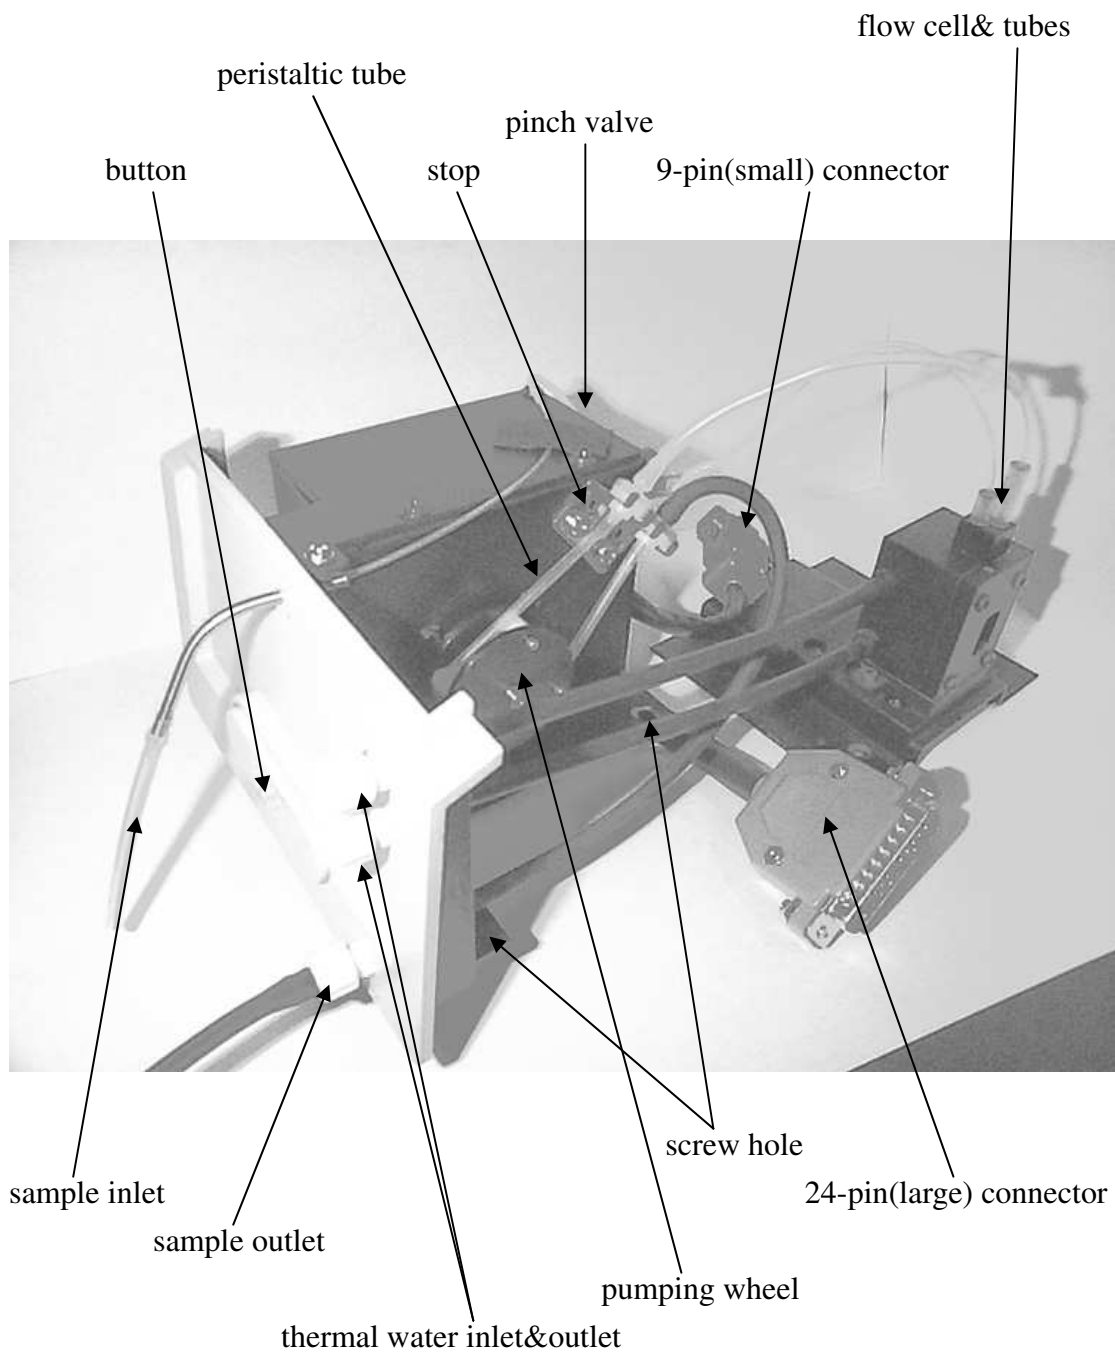

Figure 1. Sipper Assembly(with flow cell connected)
- A sipper assembly as shown on fig. 1 includes one pumping drive, one pinch valve (one sample input, and another air input) two connectors (small one for connecting to electronically thermal controlled cell assembly, large one for connecting to SP8001 machine), two flexible tubes, and front panel. The latter one contains sample solution inlet and outlet; thermal controlled water circulation inlet and outlet, and one button.
- At the first time running sipper, checking the centering of flexible tube sitting on white roller of pumping wheel is very important. Please enter F1 under sipper setup mode to start the pump. If the tube gradually moves towards one side of white roller while wheel is rotating, turn the stop (fig.1) 45/90 degrees cw/cww until the tube returning to center position.